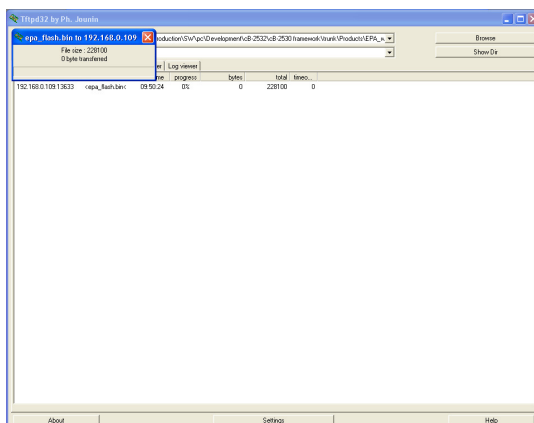

Figure 3 Firmware download window
- At this point a new window will appear according to Figure 3. The firmware download should start automatically and when this occurs a small progress window will appear.